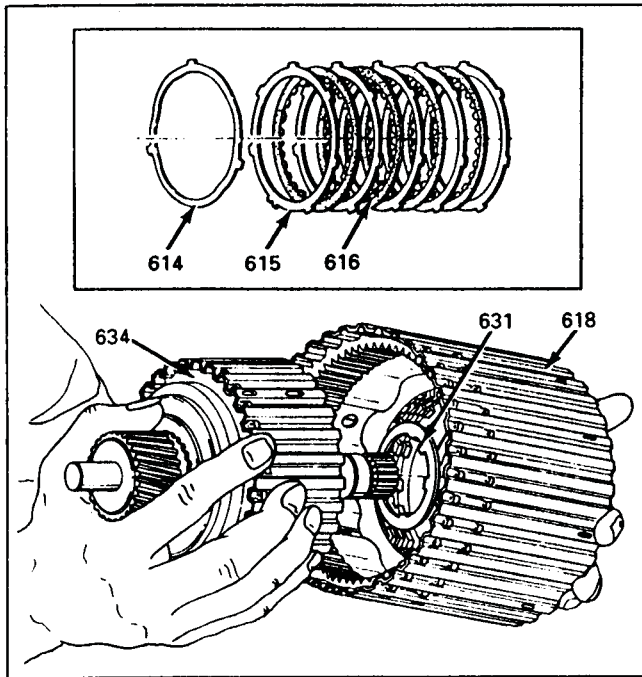

Figure 44
14. Remove the reverse clutch plates from the second clutch housing, separate the second and third clutch housings as shown in Figure 44.
15. Remove the thrust washer (631) from the third clutch housing (Figure 44).